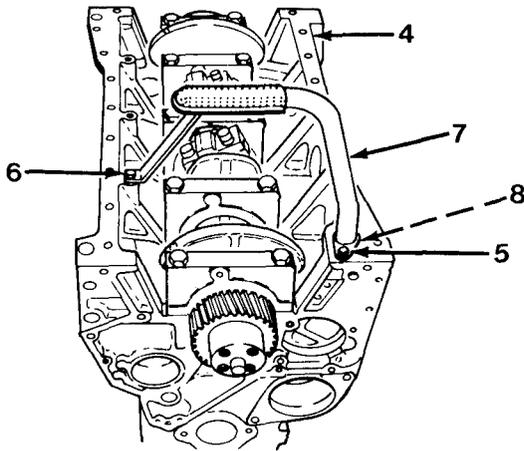

Figure 6-2
1. Install new gasket (8), suction tube (7), capscrew (6) and two capscrews (5, Figure 6-2). Torque capscrew (6) and two capscrews (5) to 18 lb-ft (24 N•m).